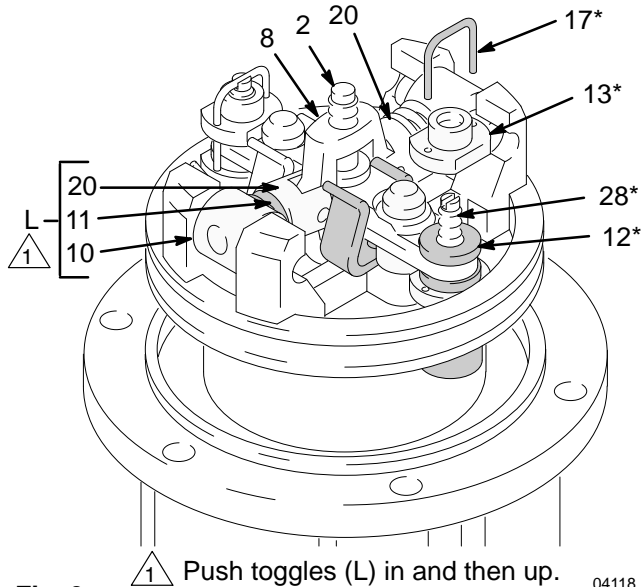

Fig. 3 Push toggles (L) in and then up. 04118
To reduce the risk of pinching or amputating your fingers, **always** keep fingers clear of the toggle assemblies (L). See Fig. 3.
9. Use a screwdriver to push down on the trip rod yoke (8) and snap the toggles down. See Fig. 3. Remove the lockwires (17*) from the adjusting nuts (13*). Screw the top nuts off. Screw the stems (28*) out of the grommets (12*) and bottom nuts. Take the valve poppets (35*) off the stems and squeeze them firmly to check for cracks.
10. Grip the toggle rockers (10) with a pliers. Compress the springs (11) up away from the piston lugs, and remove the parts. Check to see that the valve actuator (18) is supported by the spring clips (16), but slides easily into them. Remove the trip rod yoke (8), actuator (18), and trip rod (2). Check the exhaust valve poppets (36*) for cracks.